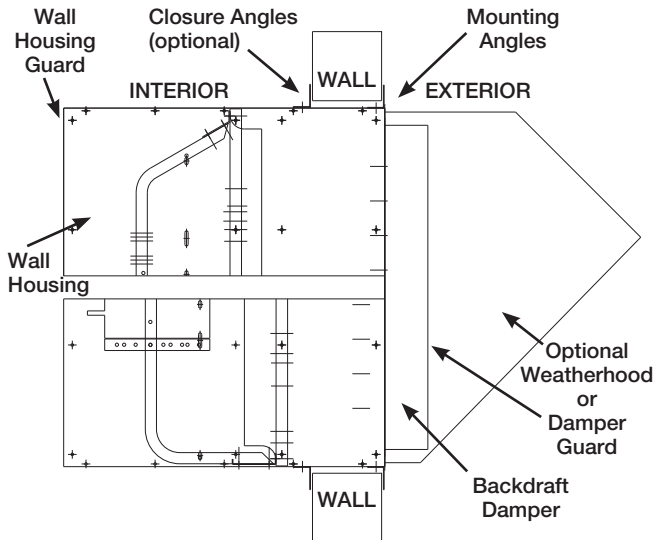

Figure 5 - Typical Installation Configuration (Exhaust/Supply)
- Determine if a supply fan or exhaust fan is to be used in the wall housing (see Figure 5). Two rows of holes are provided for attaching the wall housing panels to the fan panel.
- A versatile feature of the Greenheck wall housing is a mounting flange which may be used in either a standard arrangement (Figure 5) or moved anywhere along the housing. This permits the distance the wall housing protrudes outside or inside the wall to be varied.